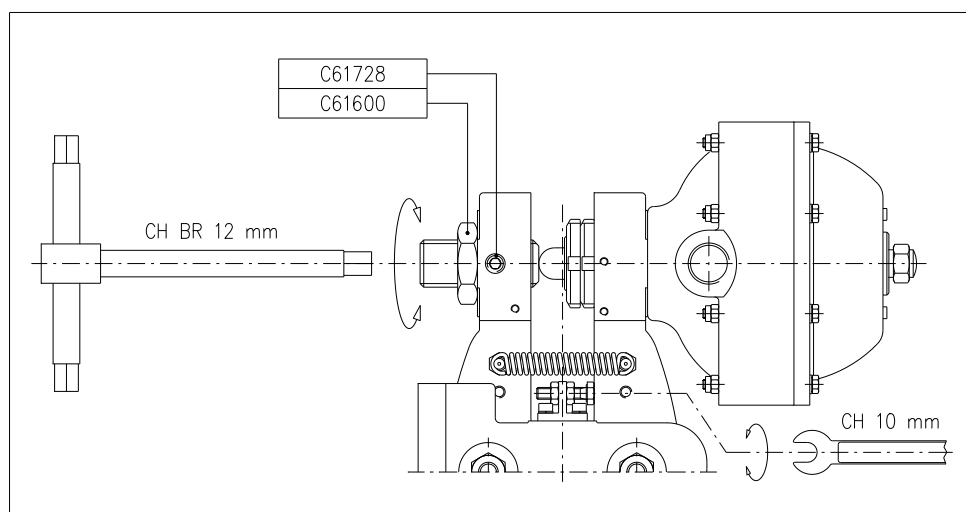

Figure 1
2. Adjust the play between the brake linings and the disc using the play adjuster and a n. 12 Allen key, rotating in the appropriate direction (Figure 1); when a play of 1 mm has been obtained between the disc and each brake lining, lock the adjuster in position screwing the nut (C61600) all the way down using a n. 36 spanner and locking the adjuster (C61728) using a n. 5 Allen key. Adjust the screw located between the levers using a n. 10 spanner (Figure. 1), until the weight of the thruster is balanced; when balanced lock the screw by tightening the nuts.
3. Lock the nut C61600 and the grub screw C61728 (Figure 1).